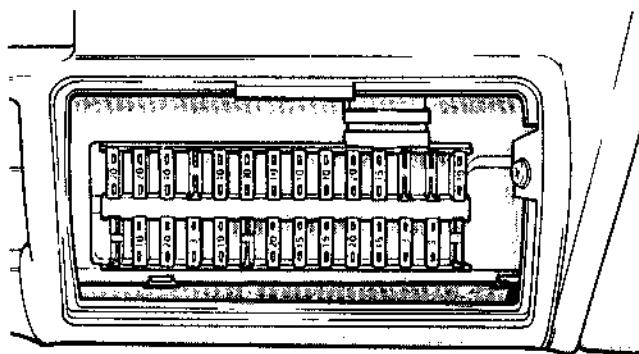

Fig.1. Fuse/relay pack positioned in dash.
6. Reposition and lock fuse/relay pack into underside of facia, refer to Fig.1.